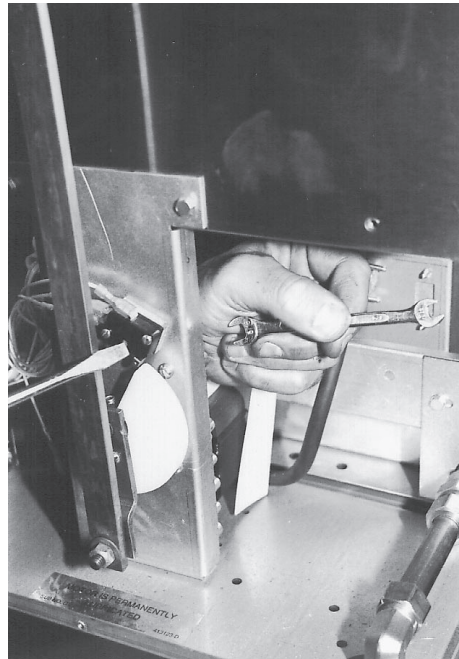

Fig. 70
2. Note and remove wiring. With a standard flat blade screwdriver, and a $\frac{5}{16}$ " wrench, remove (2) screws and holding nuts from the cam switch. (Fig.70)